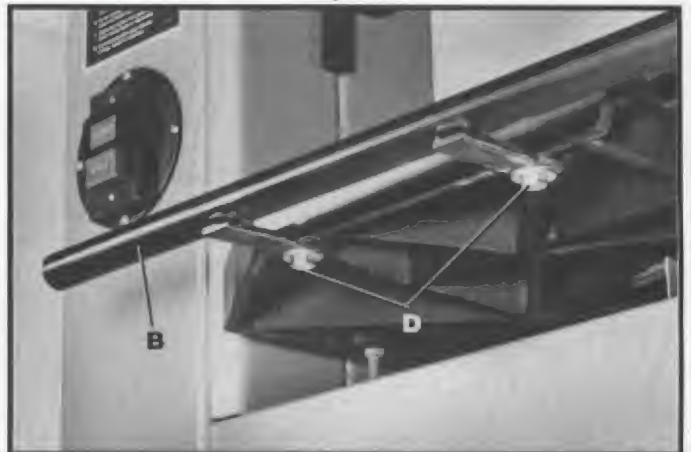

Fig. 23
3. If an adjustment is required, loosen the two screws (D) Fig. 23, and move one end of the guide rail (B) in or out until the fence cuts parallel. Then tighten screws (D).